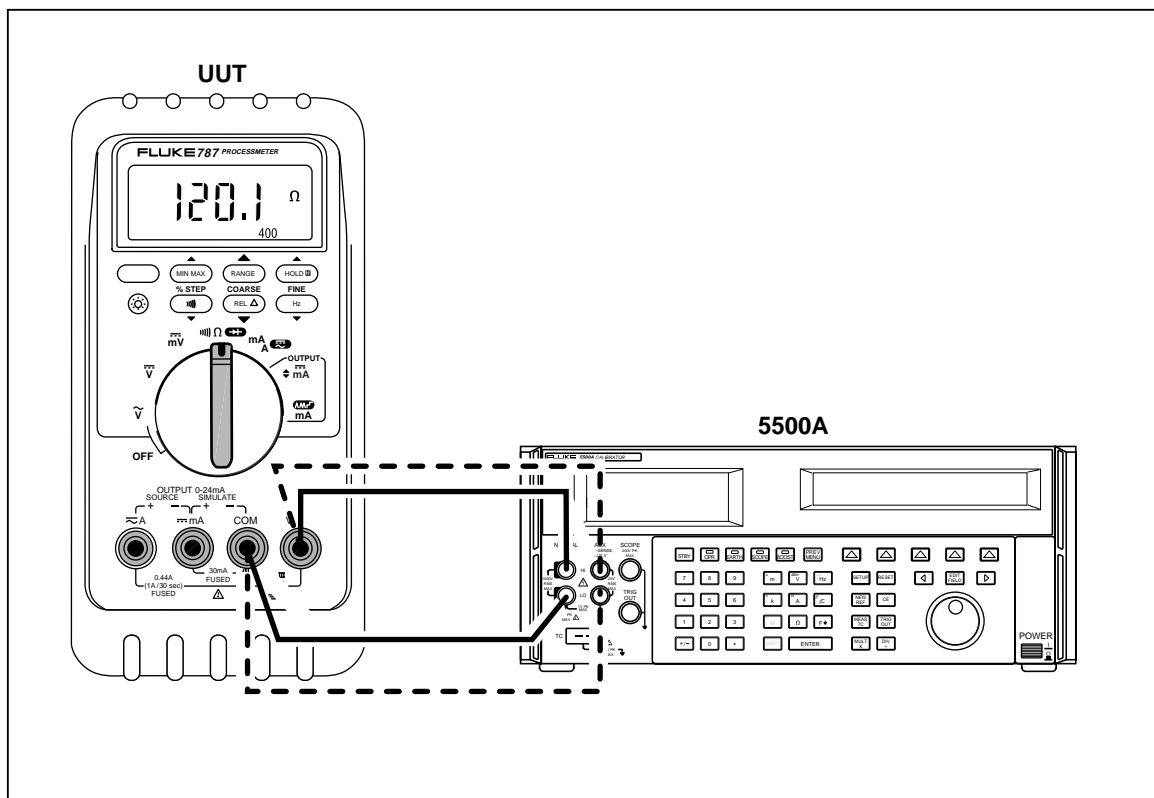

Figure 8. Resistance Measurement Test Connections
3. Connect the Output and Sense leads of the calibrator to the UUT as shown by the solid and dotted lines in Figure 8.
5. Change the connections to the UUT. Using the Fluke 5440A-7002 low thermal leads, connect the calibrator to the UUT as shown by the solid lines in Figure 8.